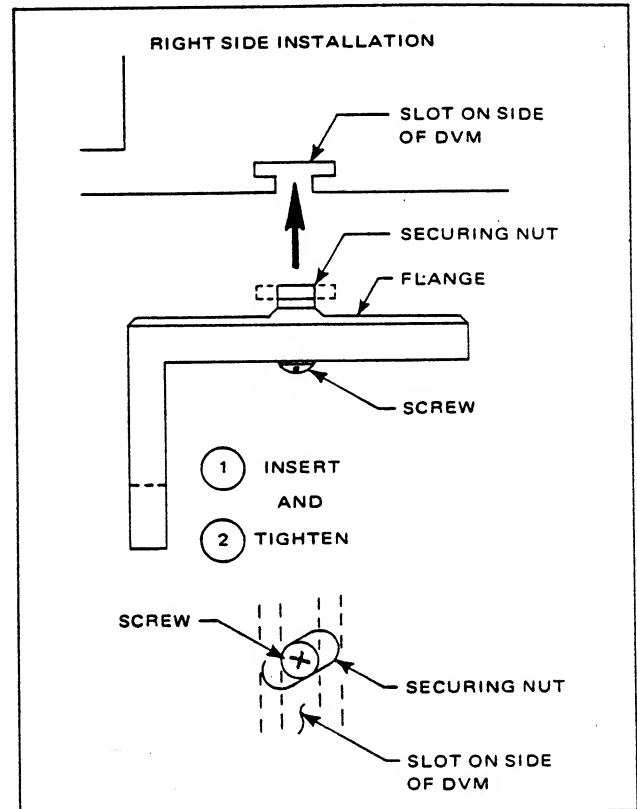

Figure 2.1 - Rack Mount Installation
- c. Place one of the supplied screws through each of the two holes in the mounting flange (figure 2.1). Thread a securing nut onto each screw just enough to attach it to the screw (approximately one turn).